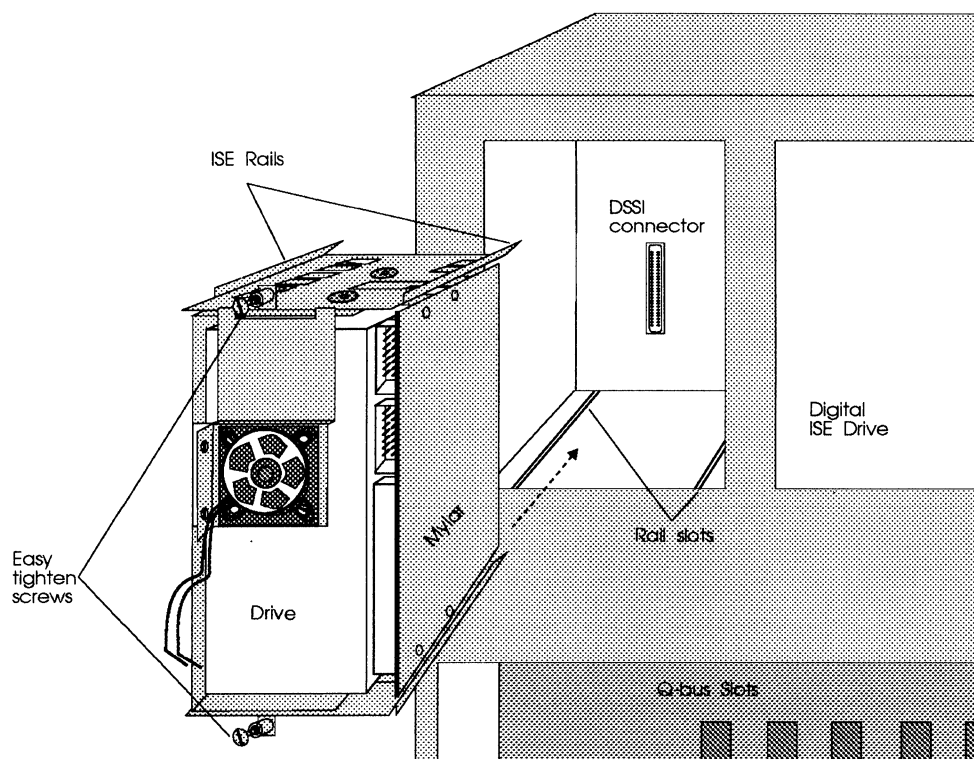

Figure 4-8: CDI-4000-SE ISE and drive installation
- 13 Align the ISE rails with the rail slots in the system and slide the ISE with the drive into the system until the floating connector is tightly in the DSSI connector in the backplane of the system. See Figure 4-8.